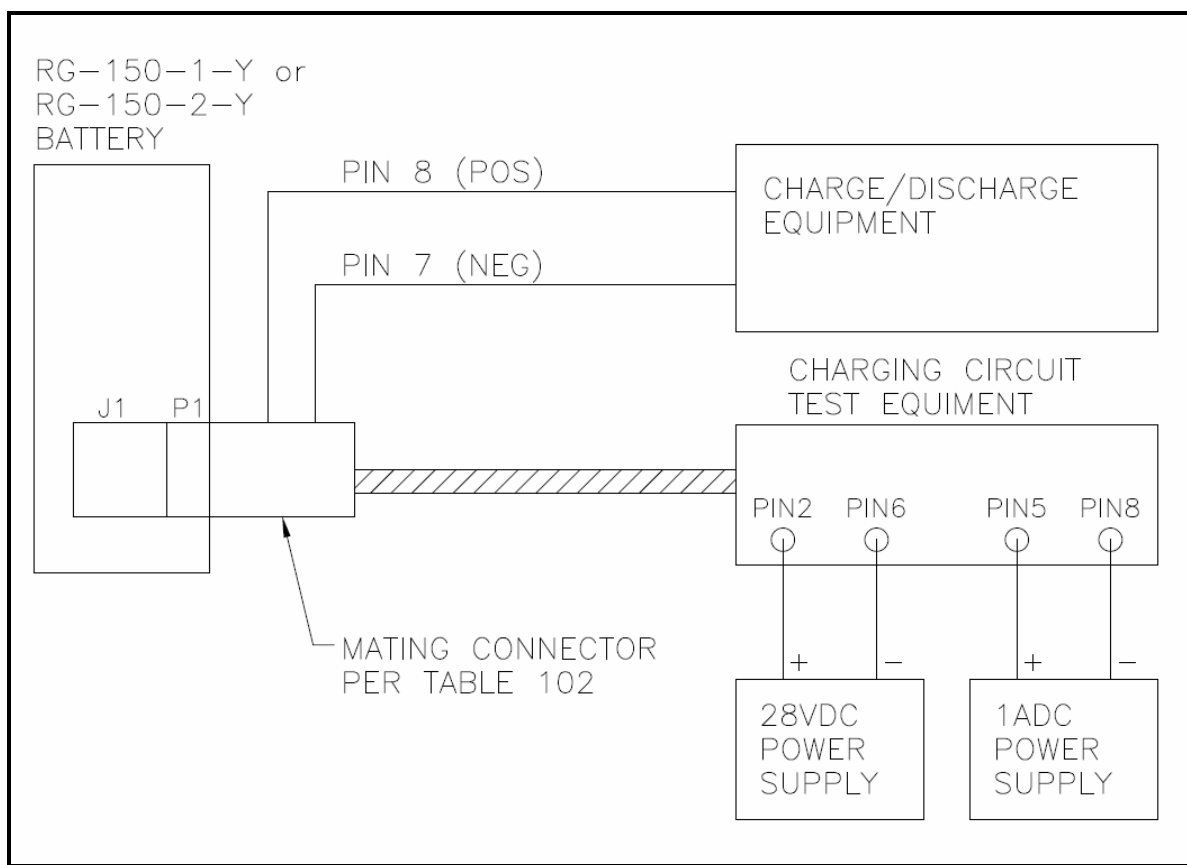
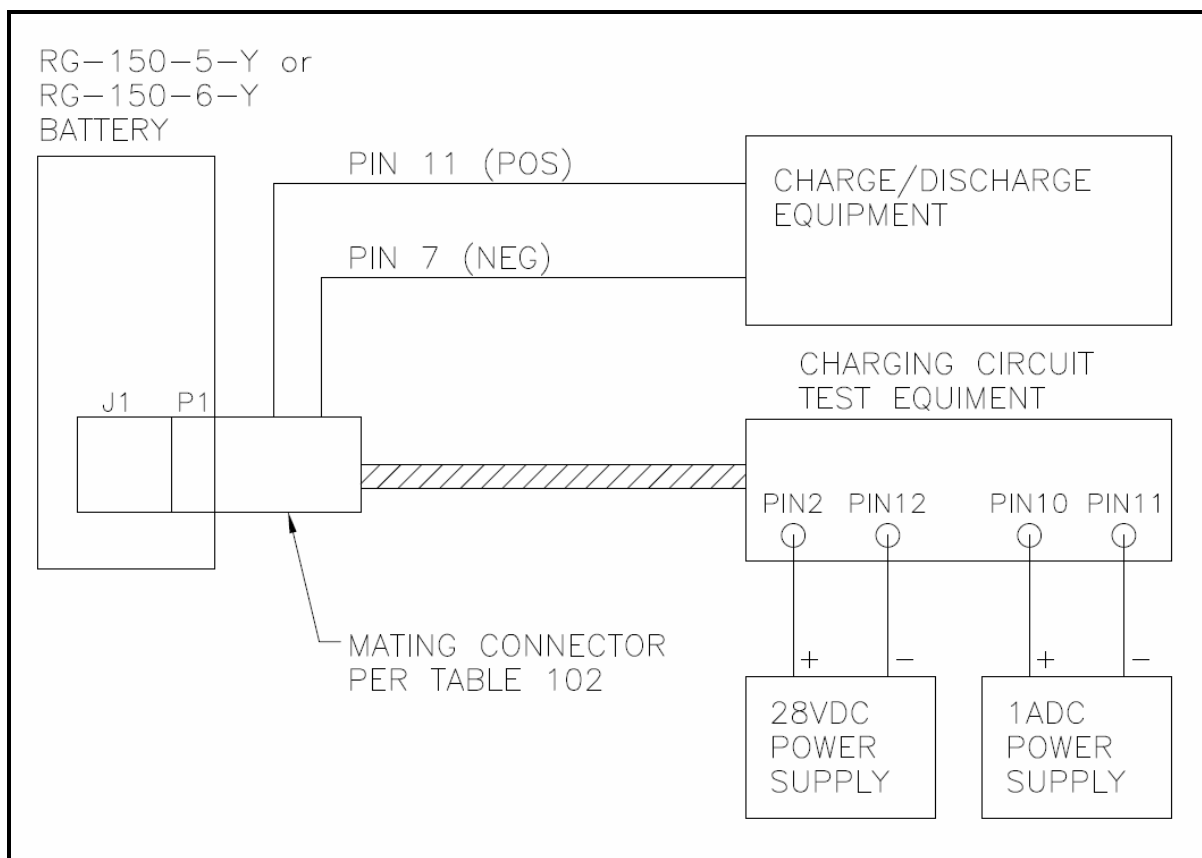

Figure 101. Test Set Up for RG-150-1-Y and RG-150-2-Y Series Batteries
Figure 102. Test Set Up for RG-150-5-Y and RG-150-6-Y Series Batteries
- A. Refer to Figure 101 for testing RG-150-1-Y and RG-150-2-Y batteries.
- B. Refer to Figure 102 for testing RG-150-5-Y and RG-150-6-Y batteries.
- A. Refer to Figure 101 for testing the charging circuit of RG-150-1-Y and RG-150-2-Y batteries and Figure 102 for testing the charging circuit of RG-150-5-Y and RG-150-6-Y batteries.